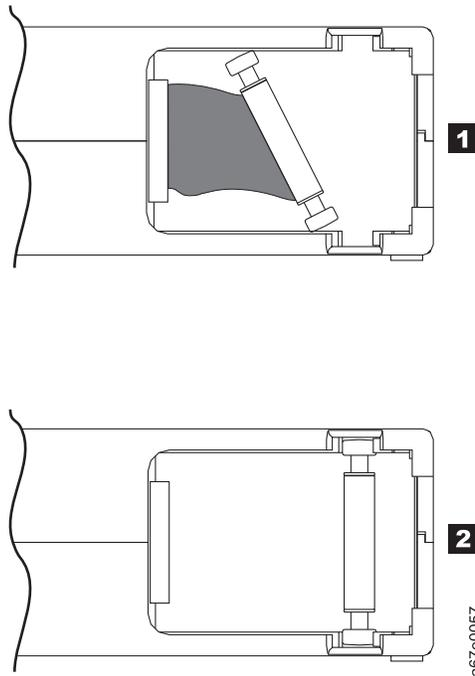

Figure 4-8. Leader pin in the incorrect and correct positions. The cartridge door is open and the leader pin is visible inside the cartridge.
- Check that the leader pin is properly seated (see **2** in Figure 4-8 on page 4-12).
- Do not drop the cartridge. If the cartridge drops, slide the cartridge door back and ensure that the leader pin is properly seated in the pin-retaining spring clips (see **2** in Figure 4-8 on page 4-12). If the leader pin has become dislodged, go to “Repositioning or Reattaching a Leader Pin” on page 4-11.
**Example: Improper Placement of Leader Pin (see Figure 4-8 on page 4-12)**
A leader pin that is improperly seated inside a cartridge can interfere with the operation of the drive. Figure 4-8 on page 4-12 shows a leader pin in the incorrect **1** and correct **2** positions.